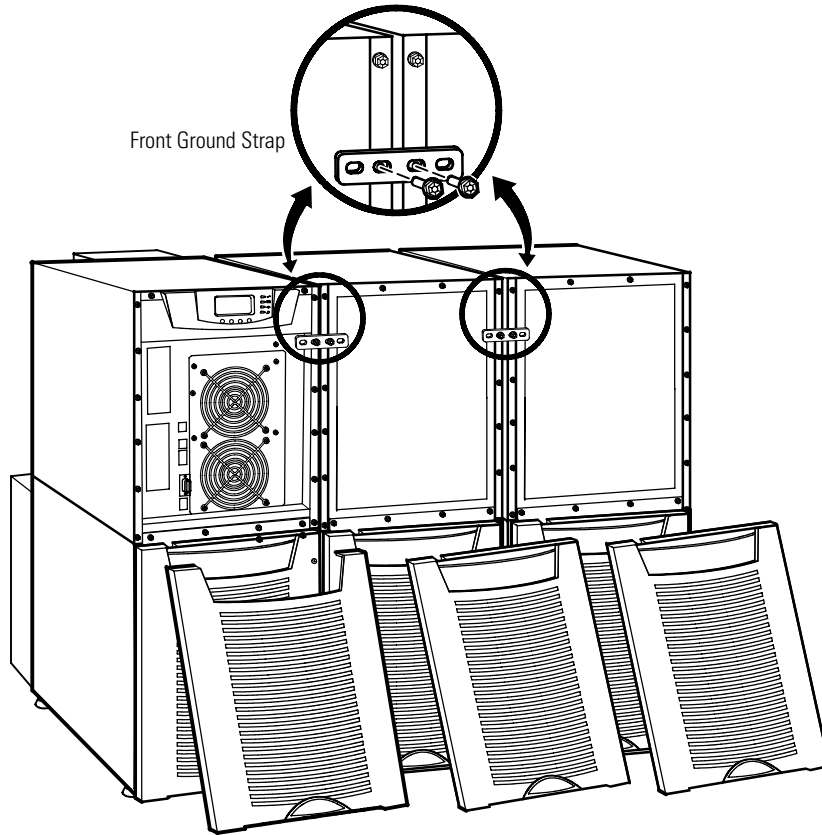

Figure 32. Front Ground Strap Installation (2-High Cabinets Shown)
9. Install the remaining ground straps between each cabinet (see Figure 32).